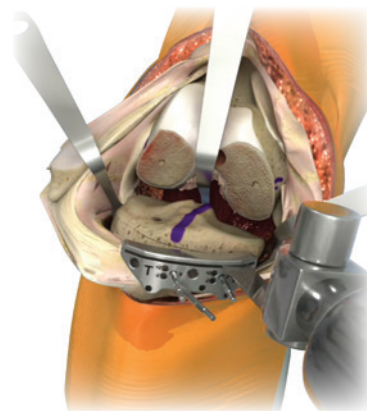

Figure 33
11. Resect the proximal tibia using an oscillating saw (Figure 33).